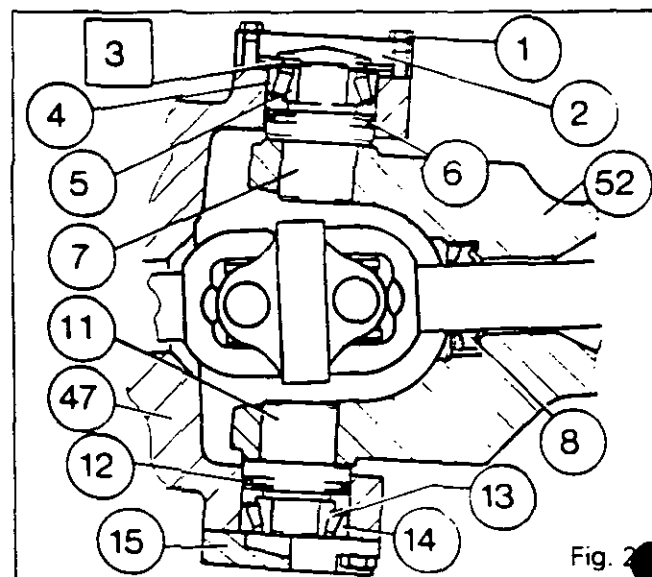

Fig. 22
**K . Refitting of swivel housings, wheel hubs and universal drive shafts (Fig. 22).**
88. If the oil seals (8) have been removed fit them against the shoulder. Replace the seals (6) and (12).
89. Oil the seals (8) and with the help of another person, fit the assemblies. Slide the universal drive shafts in the axle housing without damaging the seals. Introduce a guide through the filling hole to align the left drive shaft with the differential.
91. Position the pin (7) aligning the swivel housing (47) with the axle housing (52).
92. Fit the pin (11), the cup (14), the cover (15). Tighten the bolts (1) evenly and alternately to press the pin (11) into the axle housing.
93. Remove the cover (15) and the cup (14). Apply bearing grease on the cone (13). Refit the cup and the cover. Apply Loctite 241 on bolts (1) and tighten to a torque of 91 - 112 Nm.
94. Fit the cup (4), the shims (3), the cover (2). Tighten the bolts as in operation 92.
**Note : Check that pins (7) and (11) are in contact with the axle housing (52).**